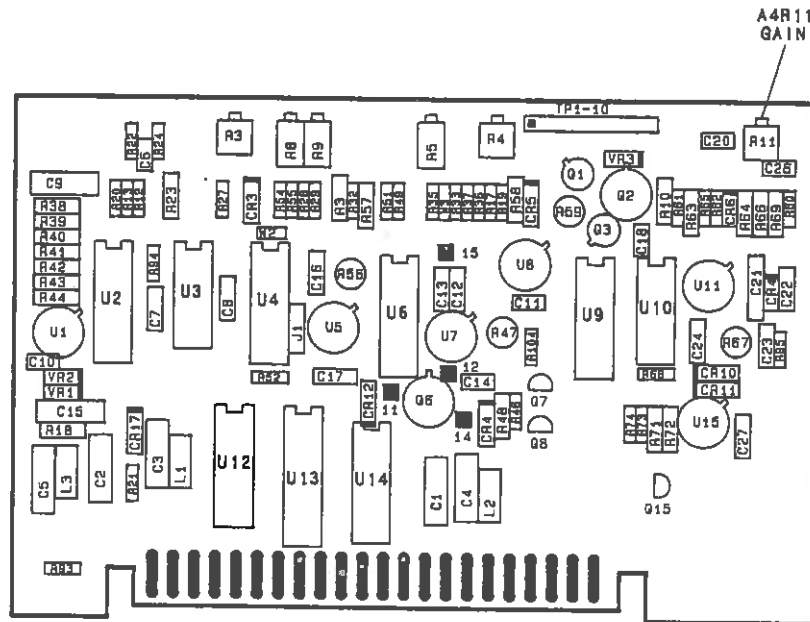

Figure 5-17. ALC Gain Adjustment Location
5. Note the point on the oscilloscope where RF power is switched on. Adjust A4R11, GAIN, (figure 5-17) clockwise for maximum gain without overshoot when the RF power is switched on. Also verify that there are no oscillations during forward sweep and that the UNLEVELED LED is off.